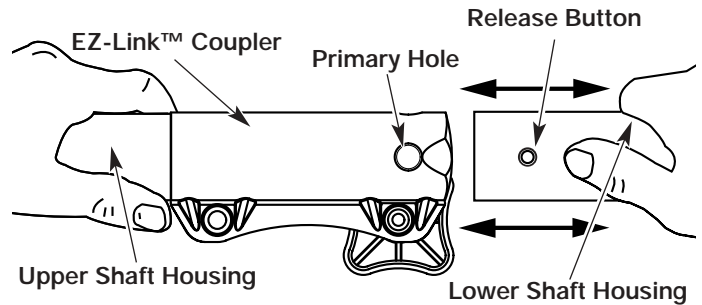

Fig. 10
- While firmly holding the add-on, push it straight into the EZ-Link™ coupler (Fig. 10).
CAUTION: Lock the release button in the primary hole (Fig. 10) and securely tighten the knob before operating this unit.
- While firmly holding the upper shaft housing, pull the cutting attachment or add-on straight out of the EZ-Link™ coupler (Fig. 10).